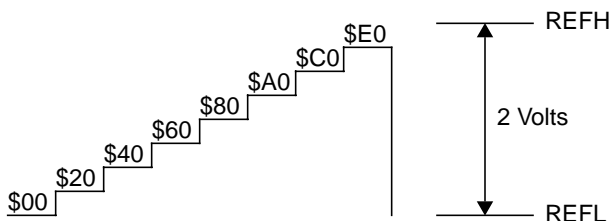

Figure 5. DAC Output Stairstep Function
The main routine in Appendix C will output a waveform on all DAC outputs. The waveform is a stairstep function with a frequency of 2.336 kHz. It is diagrammed in Figure 5.
- 5) Pins OUT0 to OUT7 on the 529 should be driving out the waveform shown in Figure 5 at a frequency of 2.336 kHz.
The main routine in Appendix F will output a waveform on all outputs of the DAC. The waveform is a staircase function with a frequency of 382 Hz. It is diagrammed in Figure 5.
- 5) Pins OUT0 to OUT7 on the 529 should be driving out the waveform shown in Figure 5 at a frequency of 382 Hz.